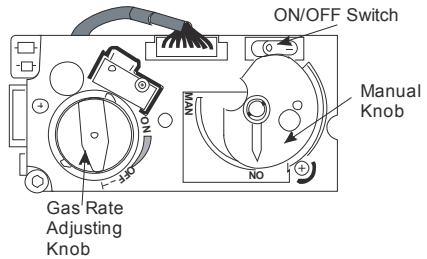

Figure 14 – Total Control Gas Valve
1. Ensure that gas is available at the valve and the ON/OFF switch in the ON position (→). (See **Figure 14**).